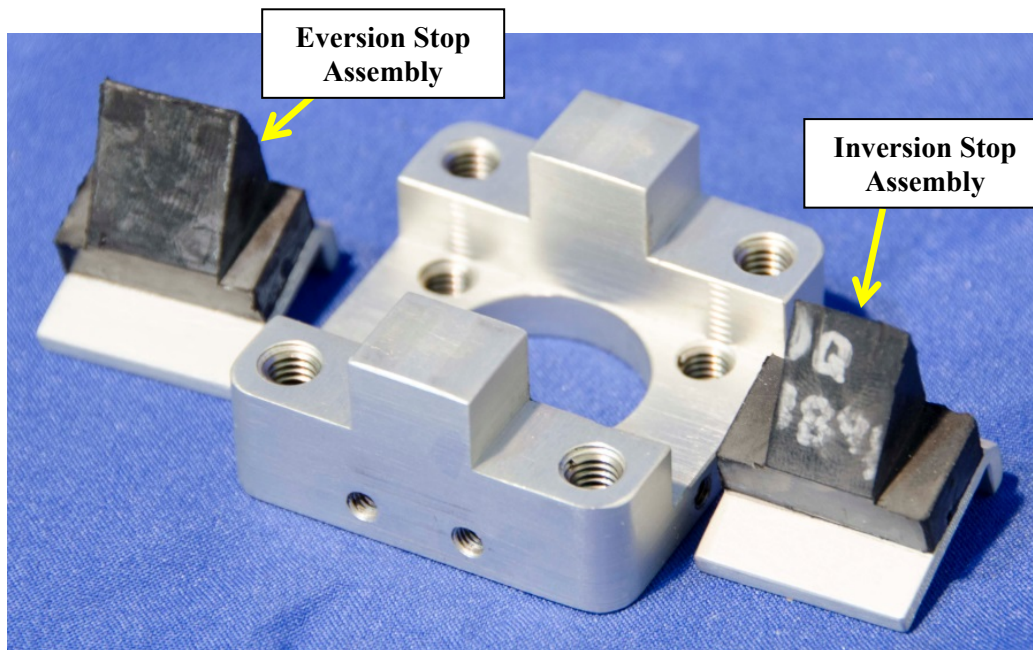
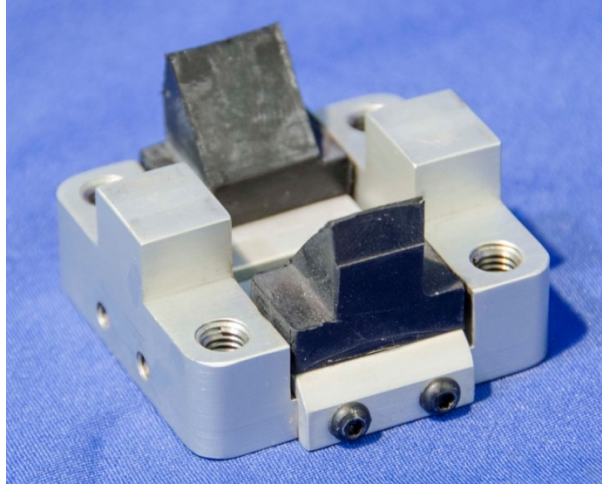

Figure 12-35. Eversion and inversion stop assemblies
Figure 12-36. Install inversion and eversion stops
- 12.2.2.20 Install the Inversion Stop Assembly (472-7534) and Eversion Stop Assembly (472-7533) to the Torque Bottom Base (472-7523) using two M3 x 0.5 x 8 BHCS for each stop assembly (Figure 12-35 and Figure 12-36). The inversion stop is the thinner of the two stop assemblies.